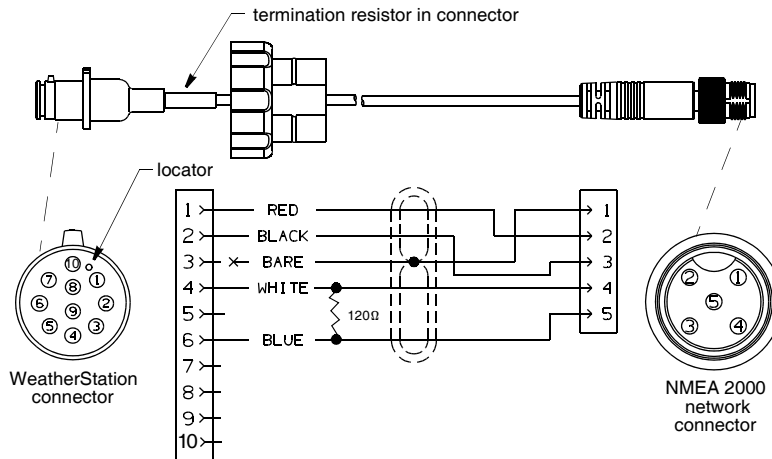

Figure 9. NMEA 2000® WeatherStation Cable [10m (33') shown]
**NOTE:** Weatherstation cables longer than 6m (20') have a termination resistor built into the sensor connector (see Figure 9).